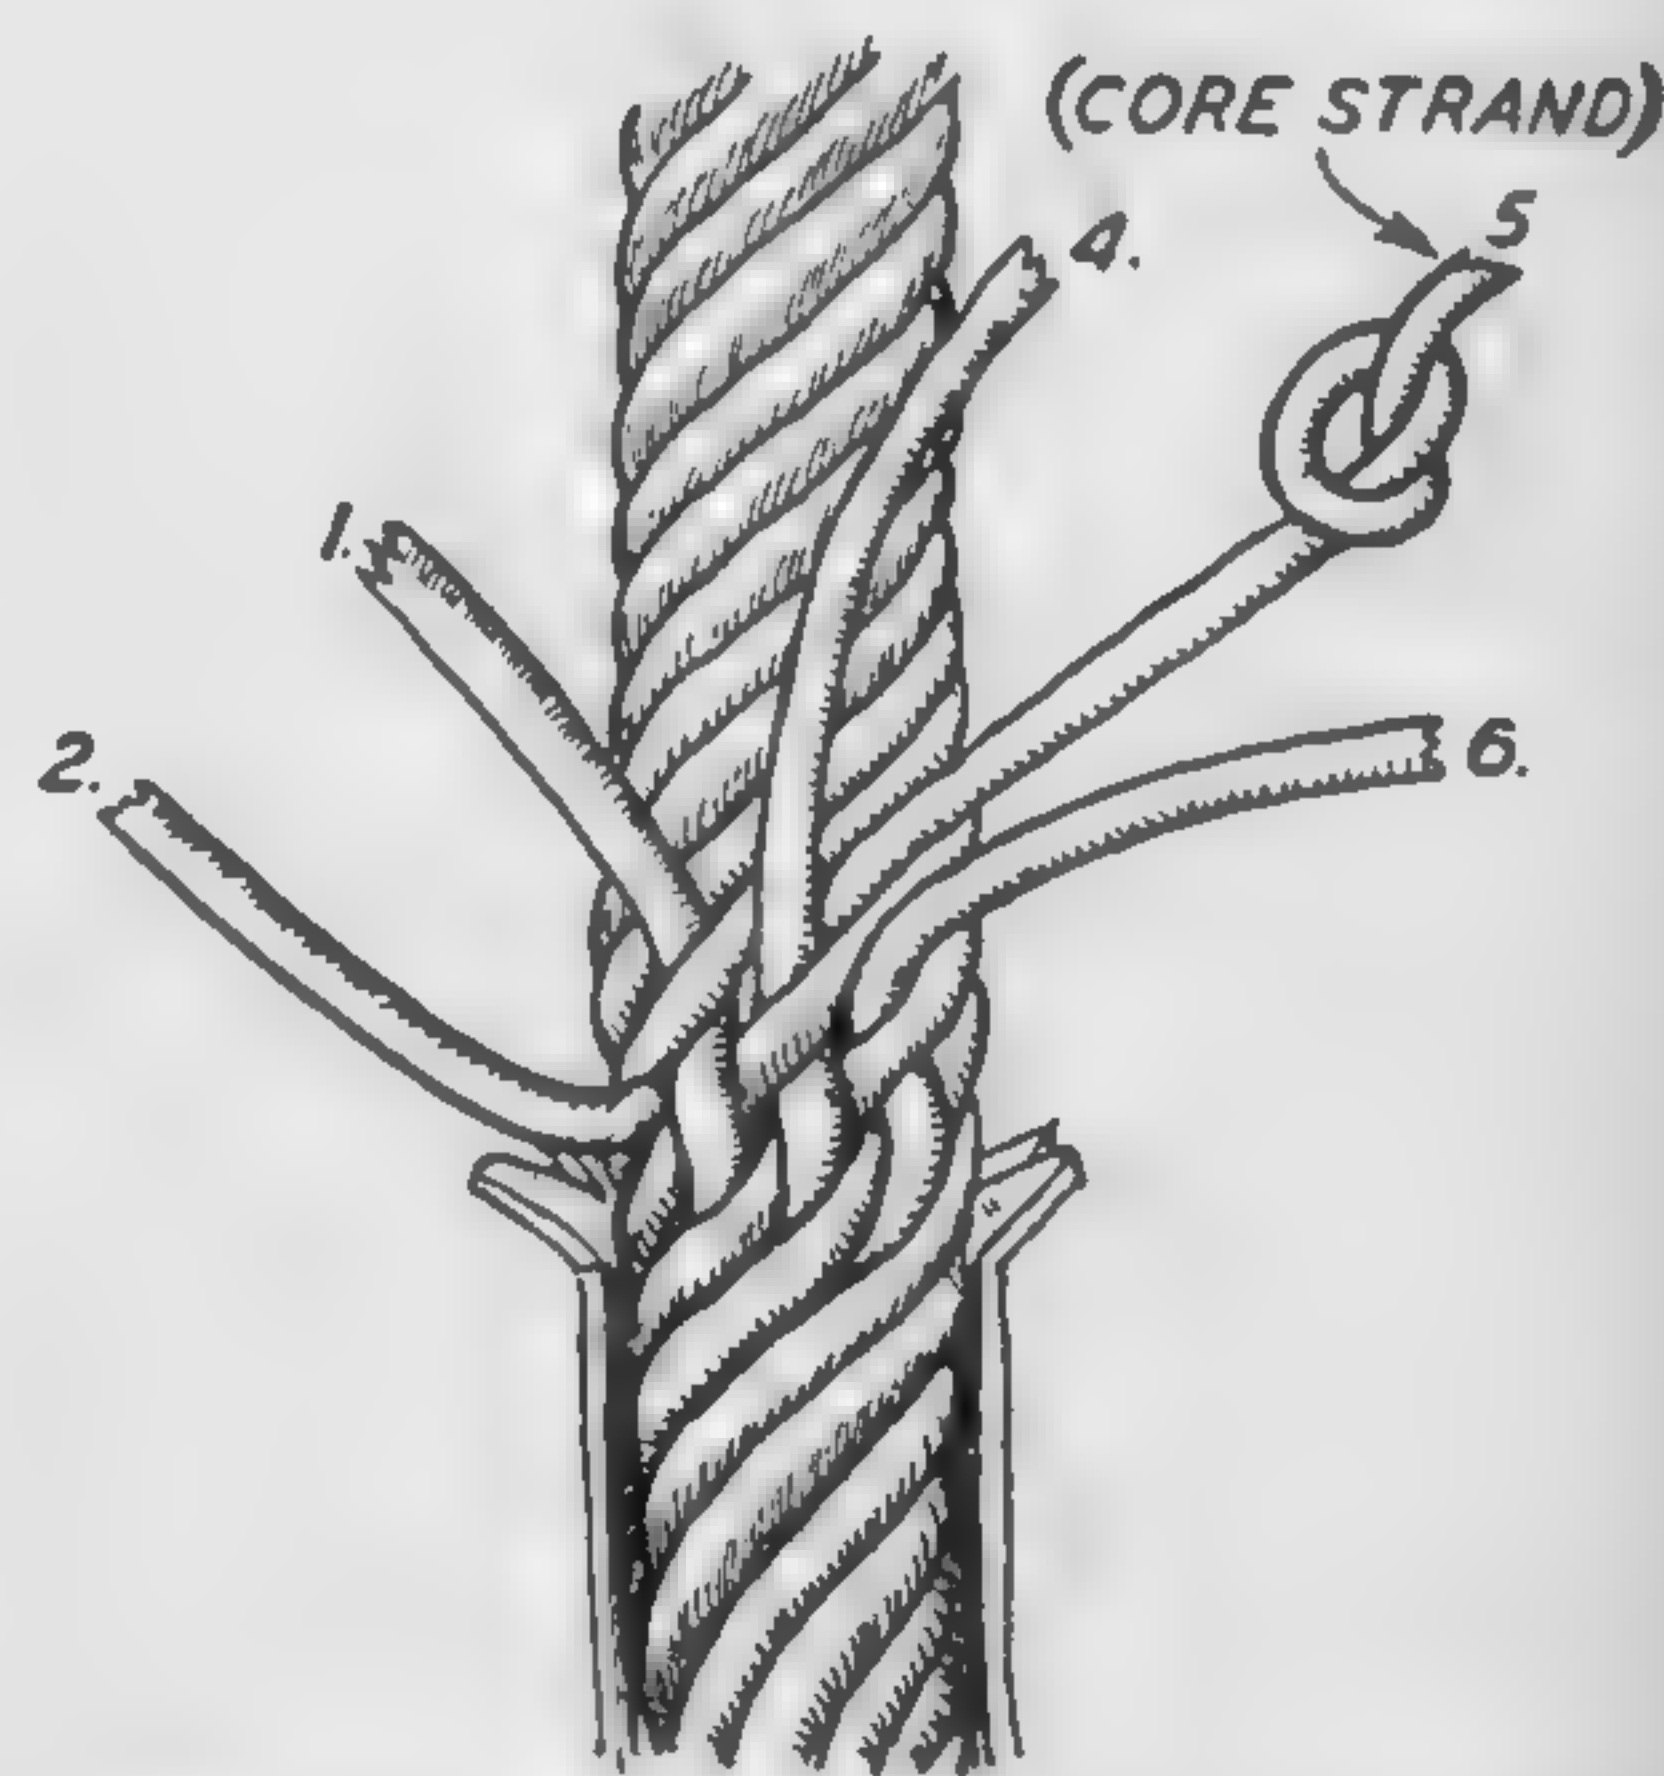

Fig. 20. Steps 1, 2, and 3 of the Second Tuck
Step 1. Start with No. 1 strand; go over one and under one, going right to left. Bury the core strand underneath. See Fig. 20.
Step 2. Take the next free strand to the right, No. 4, go over one and under one from right to left, as in Fig. 20.
Step 3. Take next strand to the right, which is No. 6 and go over one and under one from right to left, as in Fig. 20.